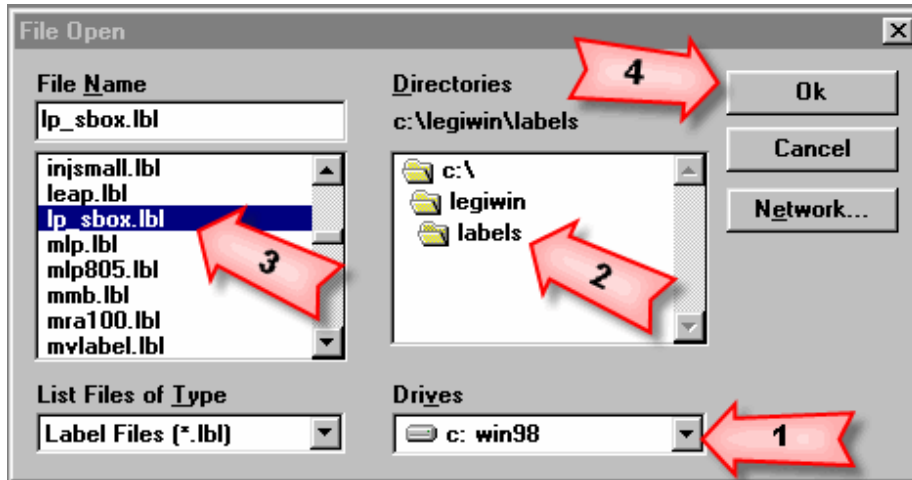

Figure 1-3
1.5. Navigate to the location of your labels. (Figure 1-3 Arrows 1 and 2)
1.6. Choose your first label. (Figure 1-3 Arrow 3)
1.7. Click [OK]. (Figure 1-3 Arrow 4)